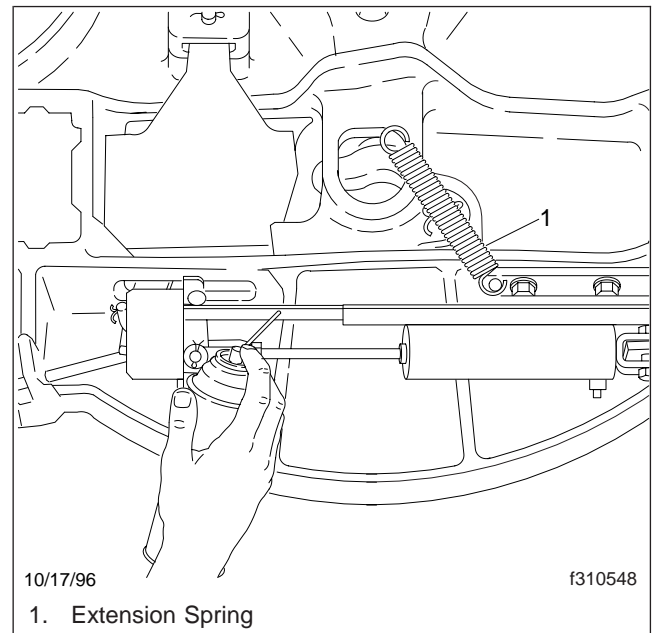

Fig. 7, Touchloc Control Mechanism Lubrication
1. With the air cylinder and the slide cam in the retracted position, lubricate the cam track with a light oil-type lubricant. See Fig. 7.